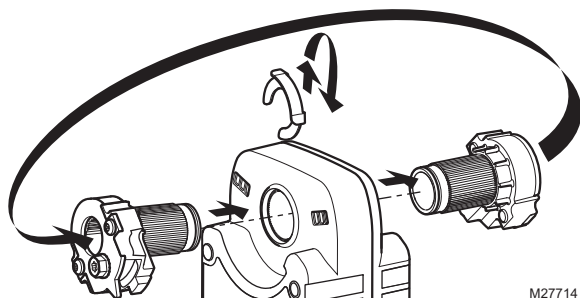

Fig. 37. Change actuator to normally open.
- (1) Change setting of reverse/direct-acting switch, or
- (2) Remount actuator on the bracket.
- d. Move the Self-Centering Shaft Adaptor to the opposite side of the actuator, as displayed in Fig. 37.